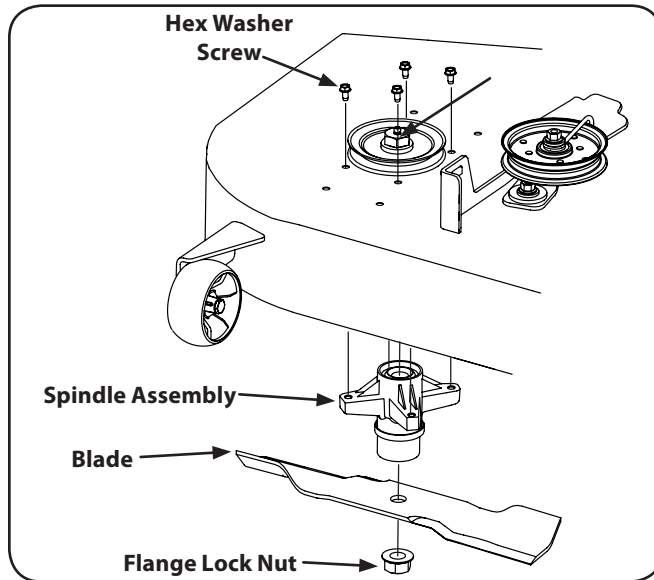

Figure 7-10
2. Use a $\frac{3}{4}$ " wrench to hold the hex nut on top of the spindle assembly when loosening the hex nut securing the blade. See Fig. 7-10.